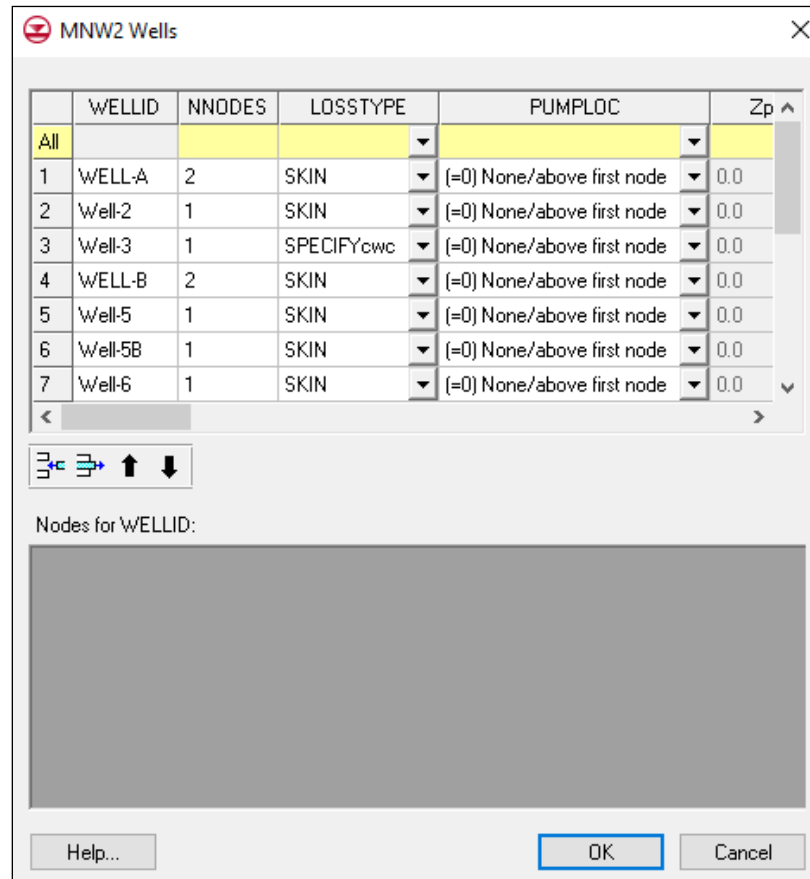

Figure 6 MNW2 Wells dialog
1. The spreadsheet in the dialog displays data that can vary by stress period, while well additions and deletions are managed through the **Wells...** button. Click **Wells...** to open the *MNW2 Wells* dialog (Figure 6).